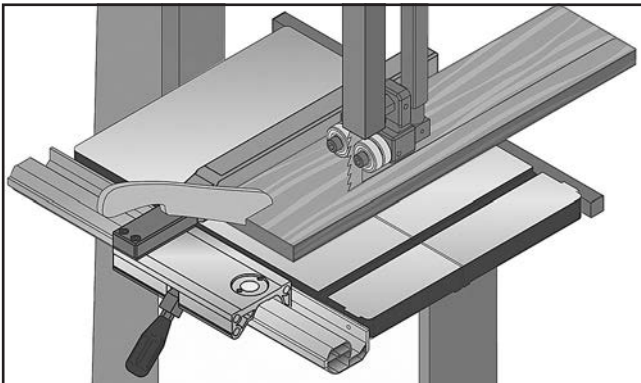

Figure 38. Example of a ripping operation.
3. After all safety precautions have been met, turn bandsaw **ON** and wait for it to come to full speed. Slowly feed workpiece into blade until blade is completely through workpiece. **Figure 38** shows an example of a ripping operation.